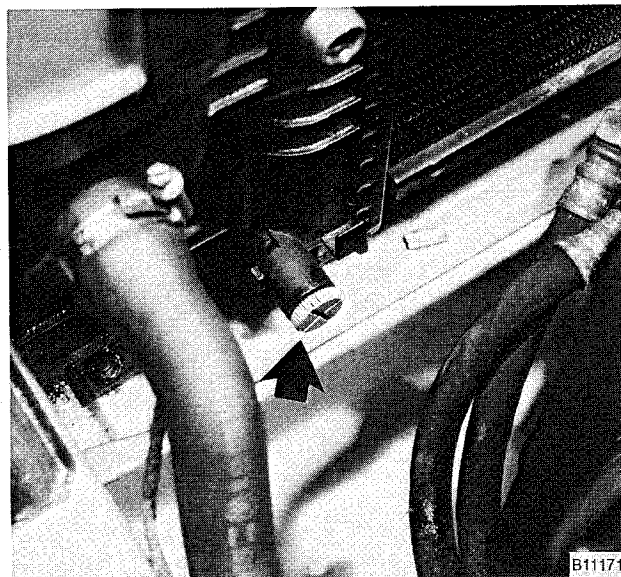

Fig. 6. Radiator drain plug (arrow).
2. Place 3-gallon pail beneath radiator drain plug and remove drain plug. See Fig. 6.